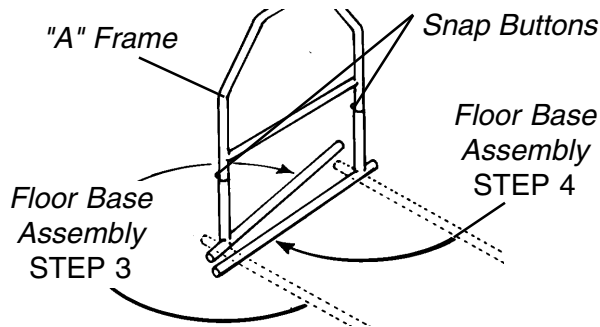

FIGURE 3 - STORING FLOOR BASE
STORING FLOOR BASE (FIGURE 3)
2. Depress one (1) snap button on floor leg assembly and lift UP on the "A" frame until the snap button clears the top of the floor leg assembly.
3. Rotate one (1) leg of the floor base assembly 270° clockwise away from the other leg as shown in FIGURE 3.
4. Rotate the remaining leg of the floor base assembly 90° clockwise towards the other leg as shown in FIGURE 3.